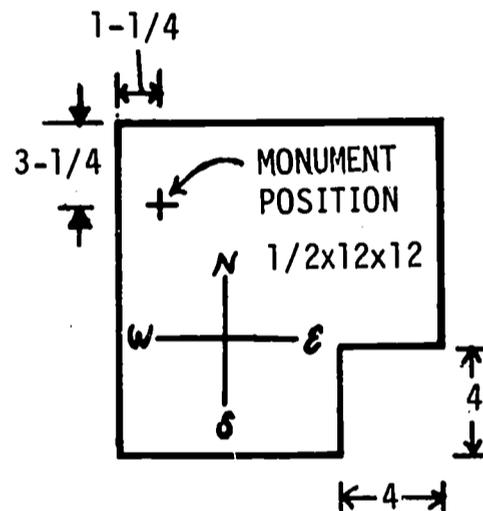

Fig. 11-1. Monument Marker Layout
1. Before class, lay out and cut the $12'' \times 12''$ piece of plywood according to the plan. See Fig. 11-1.
3. Draw lines through the monument as shown in Fig. 11-1. The vertical line will designate the north-south axis for the direction circle.